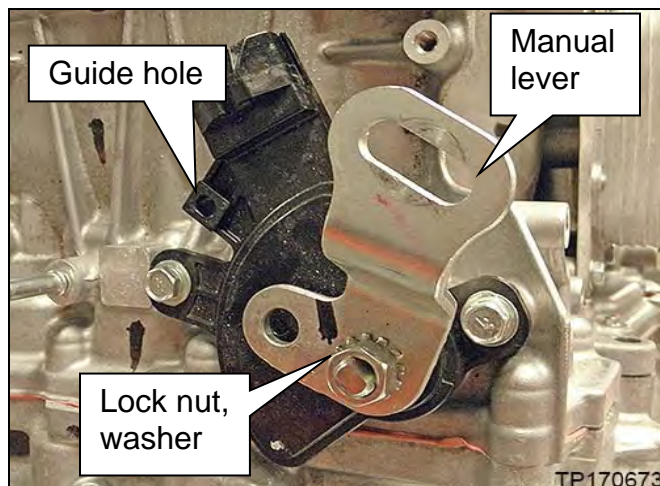

Figure 1W
- Alignment pin will insert into guide hole in the transmission range switch (Figure 1W).